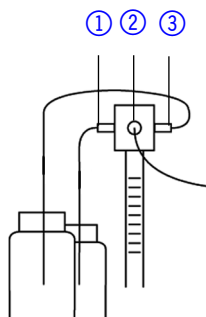

Fig.44 Syringe connections
3. Introduce the suction tube for wash solution (right port of syringe valve, see. Fig. 44) into the bottle.